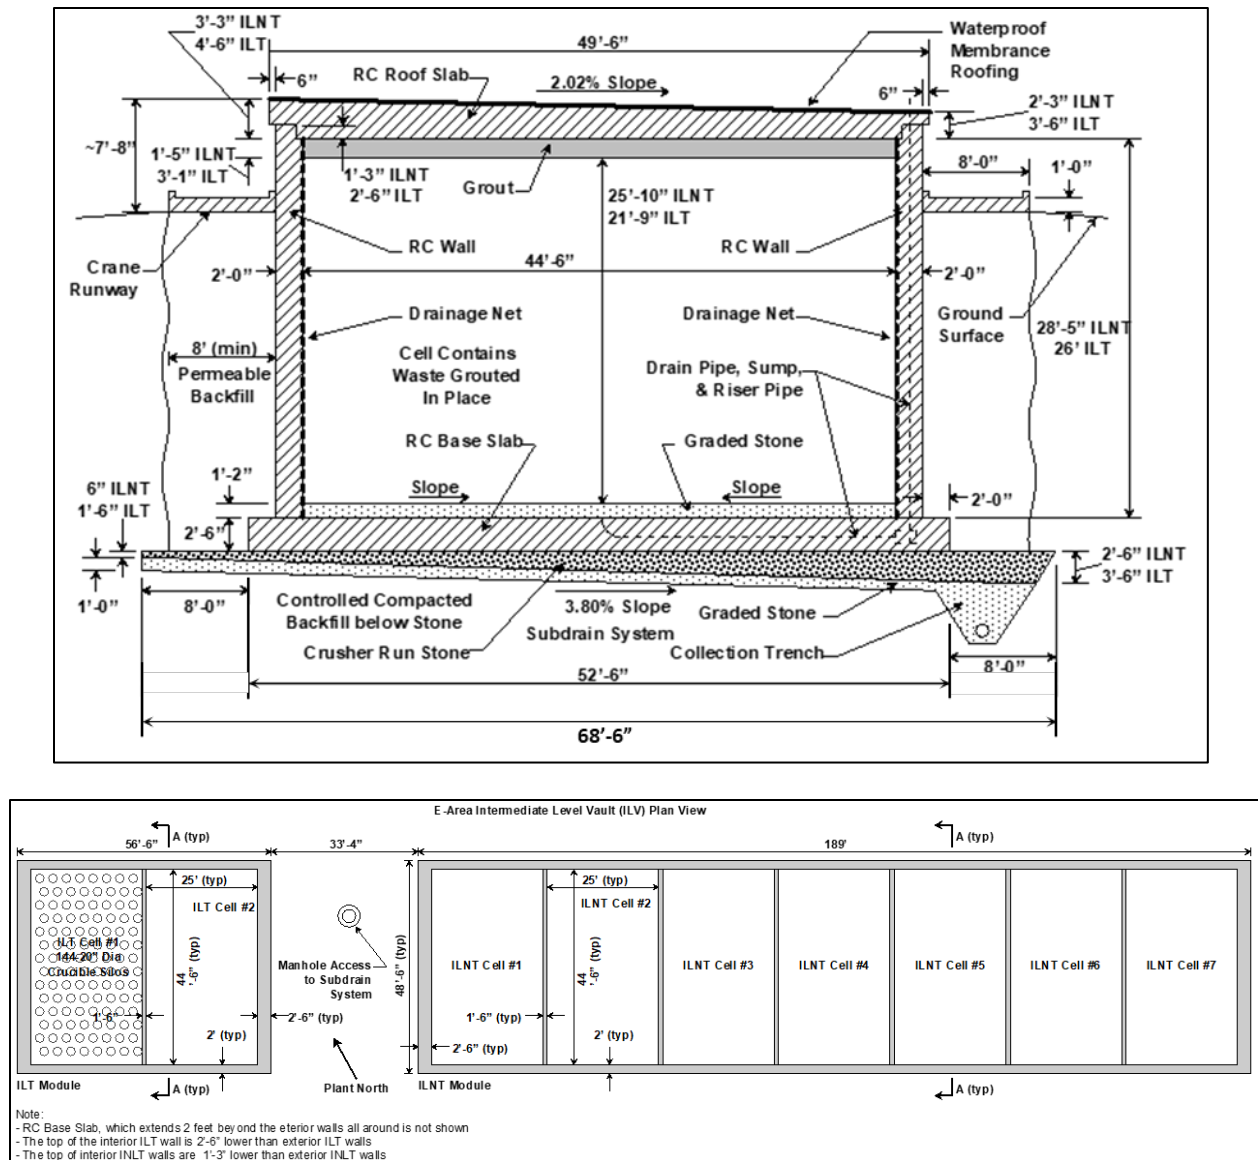
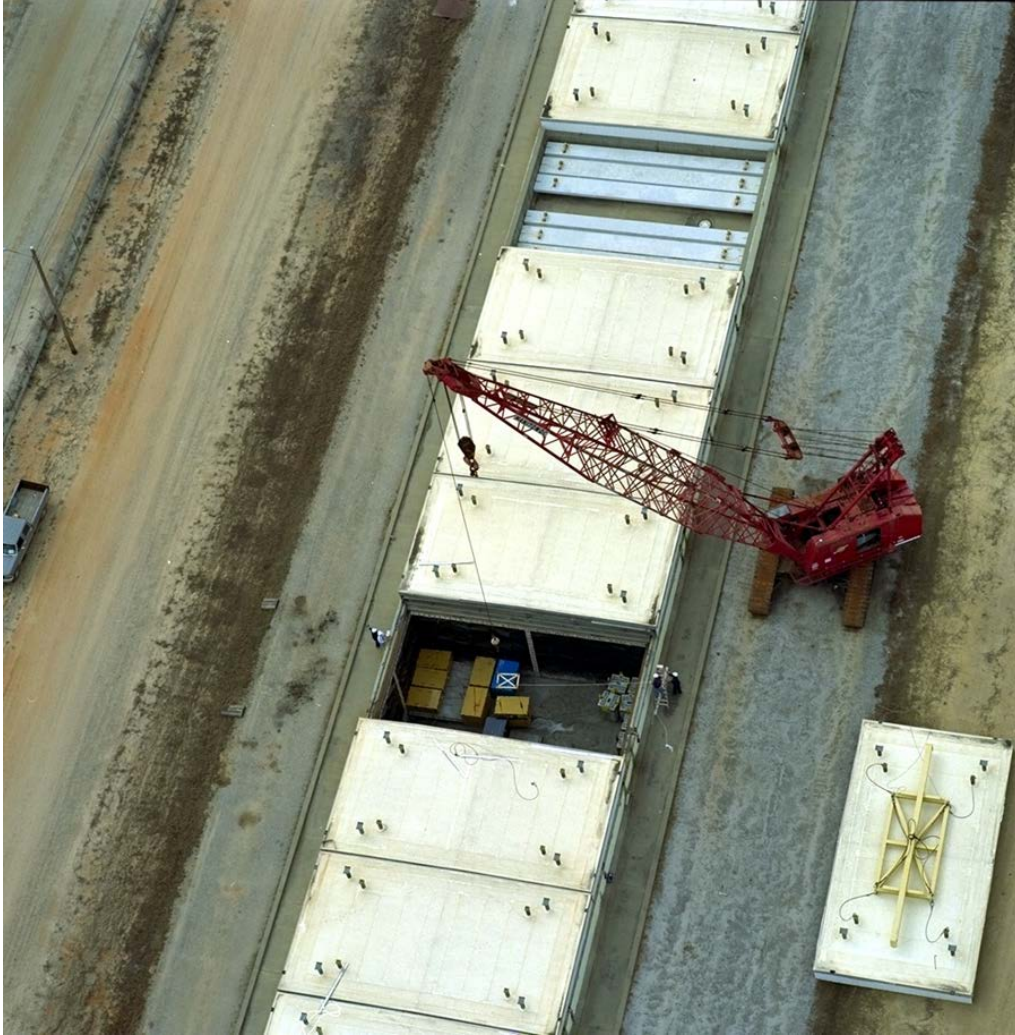
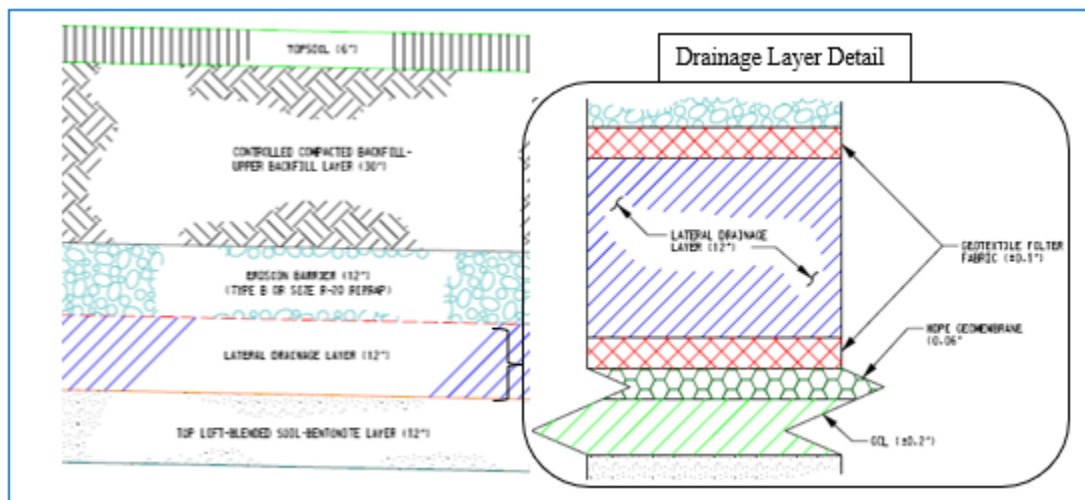

Figure 4-2. Plan, and Cross-Sectional (A-A) Views of the ILV.
Figure 4-3. Aerial View of the ILV.
Figure 4-4. ILV Disposal Unit Final Closure Cap Configuration (C-CT-E-00084, 2016).
The ILV was constructed with 30-inch thick, reinforced concrete exterior end walls, 24-inch thick, reinforced concrete exterior side walls, and 18-inch thick, reinforced concrete interior walls as depicted in Figure 4-2. The walls have no horizontal joints and are structurally mated to a 30-inch thick, reinforced concrete base slab that extends two feet beyond the exterior walls. The floor of each cell slopes to a drain which runs to a sump in the base slab of each cell, and it is overlain by a minimum 14-inch graded stone drainage layer. Sloped rain covers, consisting of a roofing membrane on a metal deck on steel framing installed over each cell, are used to direct rainwater onto the ground for runoff as shown in Figure 4-3. The sloped rain covers are used during the operational period only and will be replaced with a permanent concrete roof after operations cease. The sloped rain covers and permanent concrete roof slope downward toward ST08 and ST09 from south to north.
Based on its size and location (Figure 4-4), the intact infiltration model of the proposed ILV final closure cap design assumed a Bahia grass vegetative cover, two percent slope, and 250-foot maximum slope length. The final cover will include the following layers from bottom to top:
The earthen foundation layer thickness above the vault will be minimal as shown in Figure 4-4 because the waste below is encased in a concrete vault enclosure with a concrete slab roof. A thickness of 27 inches (minimum roof slab thickness shown in Figure 4-2) was assumed for the concrete slab roof layer in the HELP model simulations.
HELP simulations for the on-vault scenario treat the 12-inch thick lower backfill layer just above the vault roof as a lateral drainage layer with two percent slope and 49.5-foot slope length (Figure 4-2) as was similarly done for the LAWV by Jones and Phifer (2007). Designating the lower backfill as a drainage layer with backfill hydraulic properties allows water to drain from the roof and avoids the buildup of hydraulic head. The concrete roof slab is treated in the HELP model as a barrier soil liner with an estimated saturated hydraulic conductivity equal to 1.0E-12 cm/sec.
- A 312-inch thick vertical percolation layer with same properties as Foundation Layer (1E-03) above is added to represent backfill material extending from the bottom of Off-Vault Layer 9 to the vault's construction grade. The layer thickness (26 feet) equals the vault's northside wall height to the bottom of the roof edge for the ILT modules (Figure 4-2, cross-section A-A).